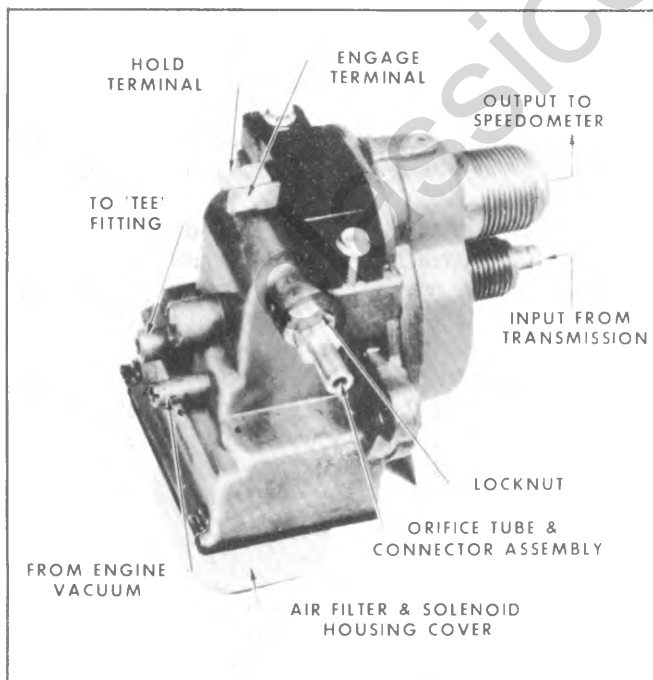

Fig. 9-2C--Transducer
2. The Transducer (fig. 9-2C) is mounted in the speedometer cable line. It is a combination speed sensing device and control unit. When engaged, it senses vehicle
If the vehicle cruises at a speed a few mph above or below the engagement speed, this error can be corrected with a simple adjustment of the orifice tube in the transducer (Fig. 9-2C).